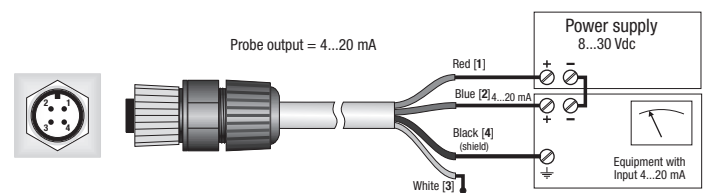

Figure 4.2: Connection diagram of LP UVI 02 AC.
- The LP UVI 02 AC, with an adequate power supply, can be connected to a multimeter or to a data logger according to the following scheme (Figure 4.2), the load resistance for the reading of the signal must be  $\leq 500 \Omega$ :